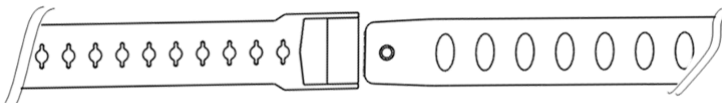

Fig. 3
2. Adjust the depth of the headband by moving the pin into different holes on the top strap. This controls how high or low the helmet sits on your head (Fig. 3).